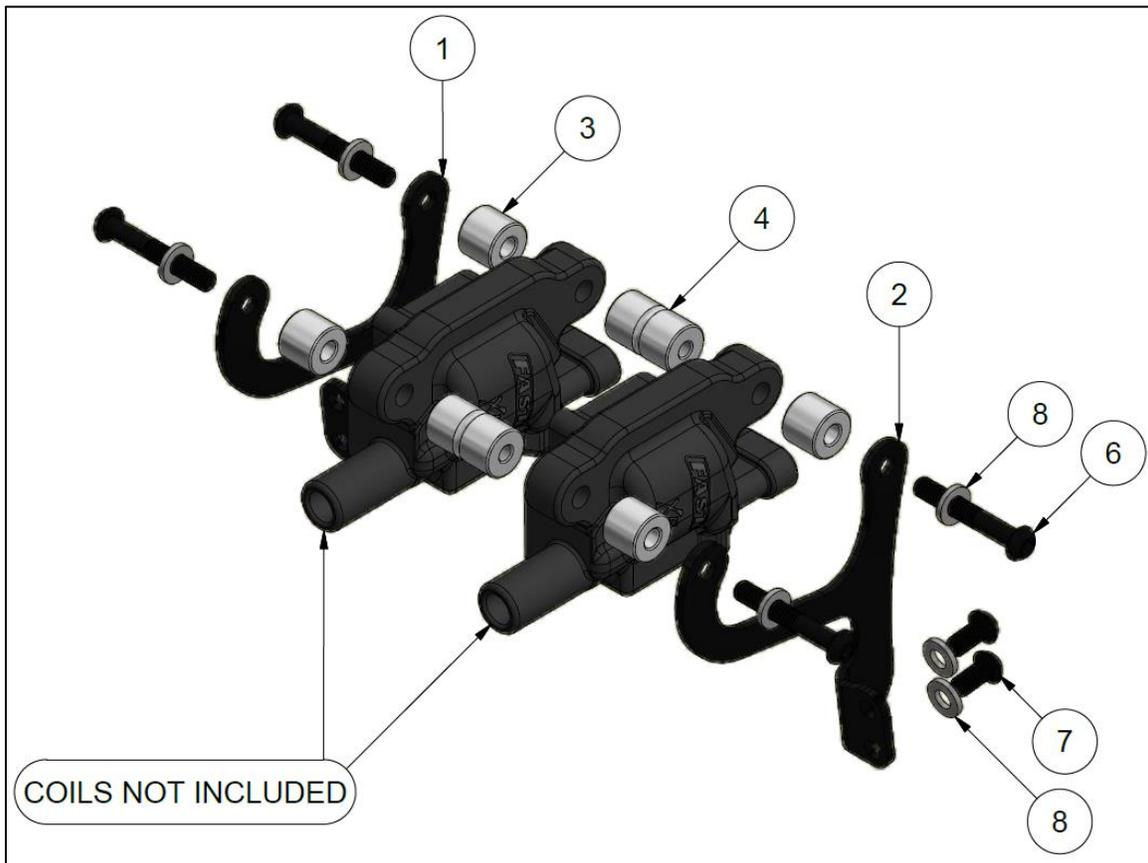

Figure 1 - P/N 290-KIT Illustrated Parts List
3. Using the exploded view in *Figure 1* as a guide, loosely assemble the COMP Cams[®] Coil Mounting brackets with your ignition coils before attaching vertical brackets (Items 1 & 2) to the valve cover.